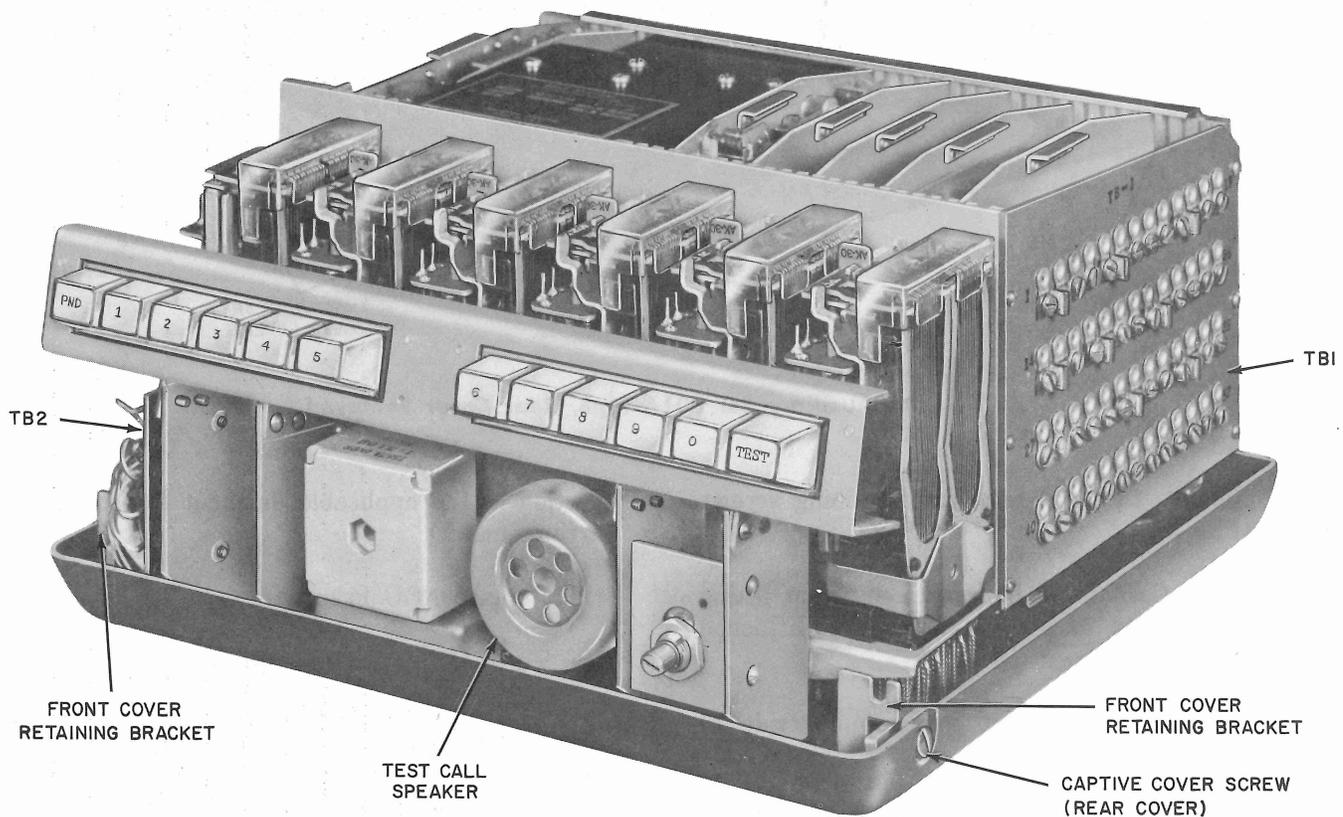

Fig. 4—Data Auxiliary Set 801A-Type, Inside View
- (f) Loosen terminal screws on TB2 (Fig. 4) and remove the spade-tipped leads of the mounting cord.
- (a) Grasp the TEST or PND button (Fig. 4) and pull outward while applying slight rocking motion.